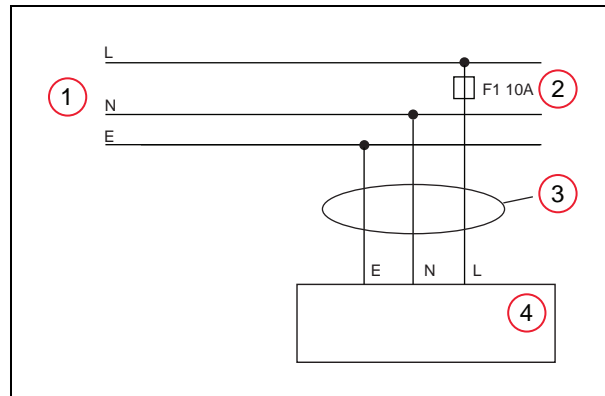
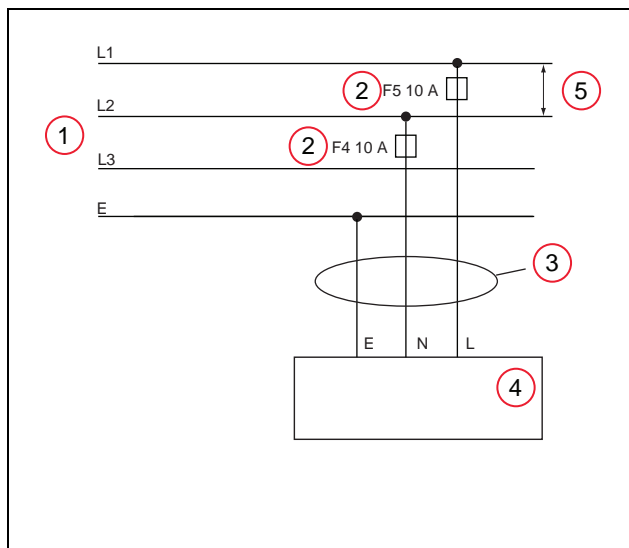

Figure 5-11. Typical AC Power Installation with Single-Phase Supply
Figure 5-12. Single-Phase Load across L1 and L2 of a Three-Phase Supply
1. Connect the unterminated end of the AC power cable to your facility AC power source. See Figure 5-11. and Figure 5-12. for details. Do not turn on AC power at this time.